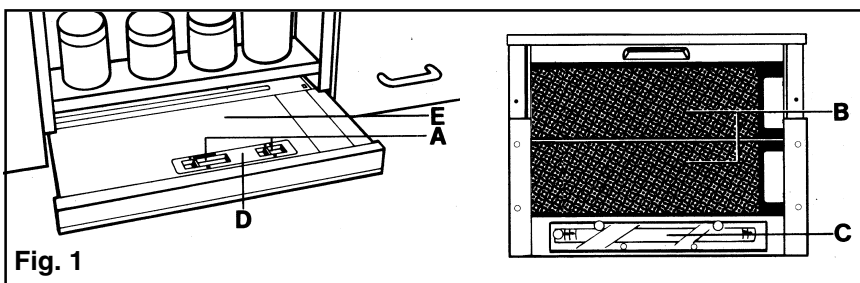

Fig. 1
- The switches are mounted on the upper right side of the visor (**Fig. 1 - E**).